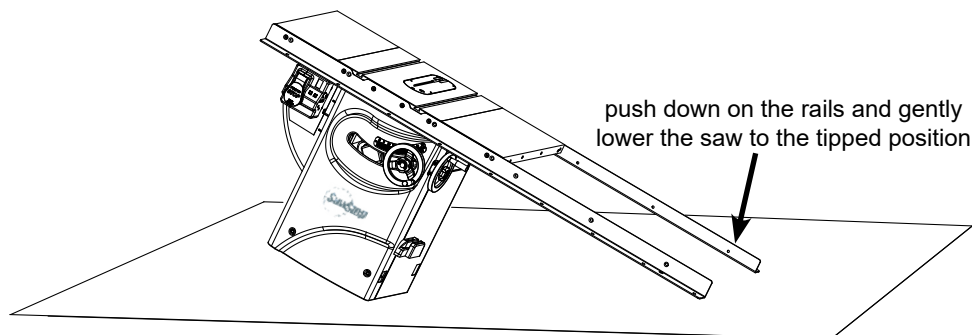

Fig. 22
- With the front and rear rails securely mounted, any out-feed table removed, and the extension table legs removed or rotated out of the way, the saw can be tipped to the side. To make the saw easier to tip, adjust the tilt handwheel until the blade is set at 45° to the table. Make sure the saw is on a level surface and then, with the help of an assistant, grip the sides of the rails near the ends and push down to gently lower the rails to the ground (see Fig. 22). Do not grip an extension table or the end of the rails to lower the saw to the tipped position because you might pinch your fingers between the extension table or rails and the ground. The rear rail is shorter than the front rail and typically will not touch the ground. To prevent scratching the rails, you can set the edge of the front rail on a piece of cardboard or cloth.